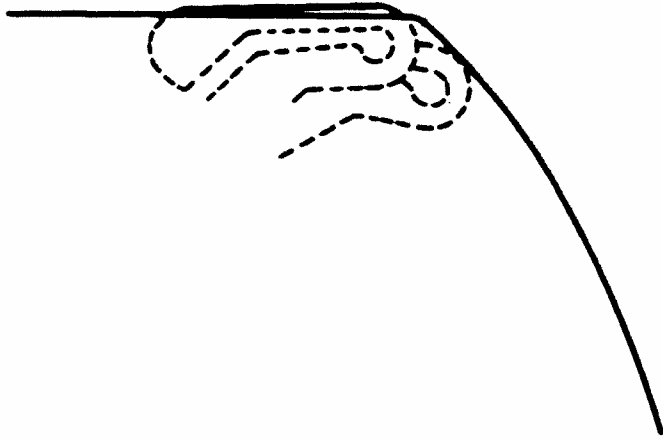
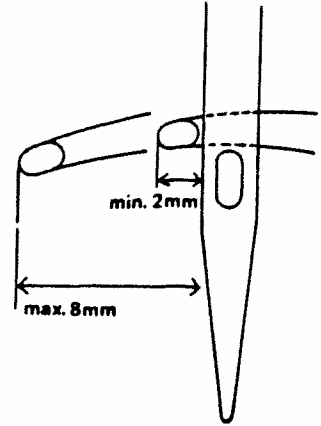

Fig. 26
Fig. 26a
Check the take-up lever position (fig. 26).
Check the position of the hook point in relation to the needle (fig. 26a).
- Repeat the synchronizer adjustment until the take-up lever „up“ position and the needle „down“ position are adjusted according to fig. 26 and fig. 26a.